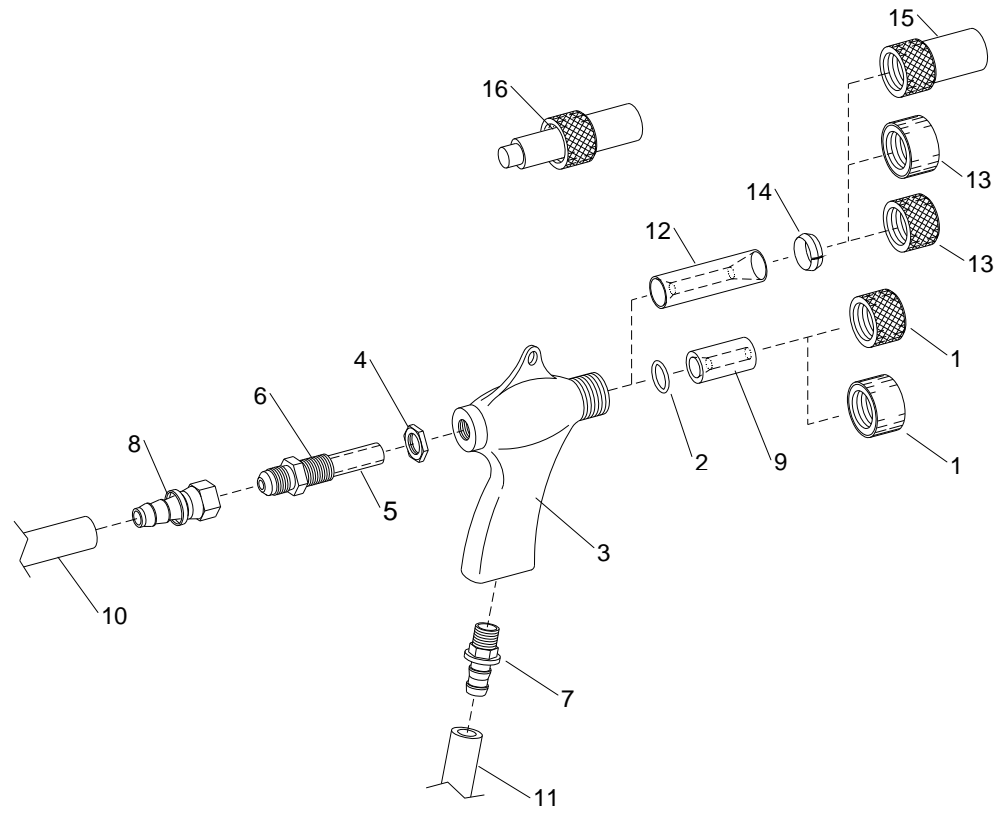

Figure 21
9.3 BNP Gun and Feed Assembly, Figure 21